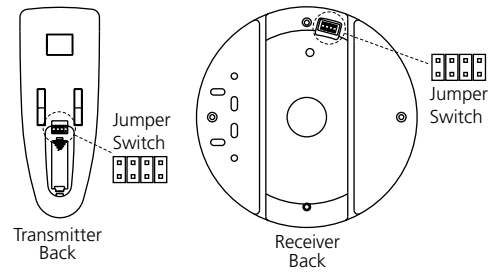

Figure 1 - Jumper Switches
2. IMPORTANT! Before installing this control, change the factory default jumper switch settings to your own unique code. Refer to Figure 1. Using small pliers or tweezers, pull out one or more of the three jumper switches by clamping on the small metal strip. Place the jumper switches in the desired spots. Be sure the jumper switch positions of the transmitter and receiver match, or the ceiling fan will not function. Select different combinations of jumper switches to prevent misoperation due to other remote control fans, garage door openers, etc.